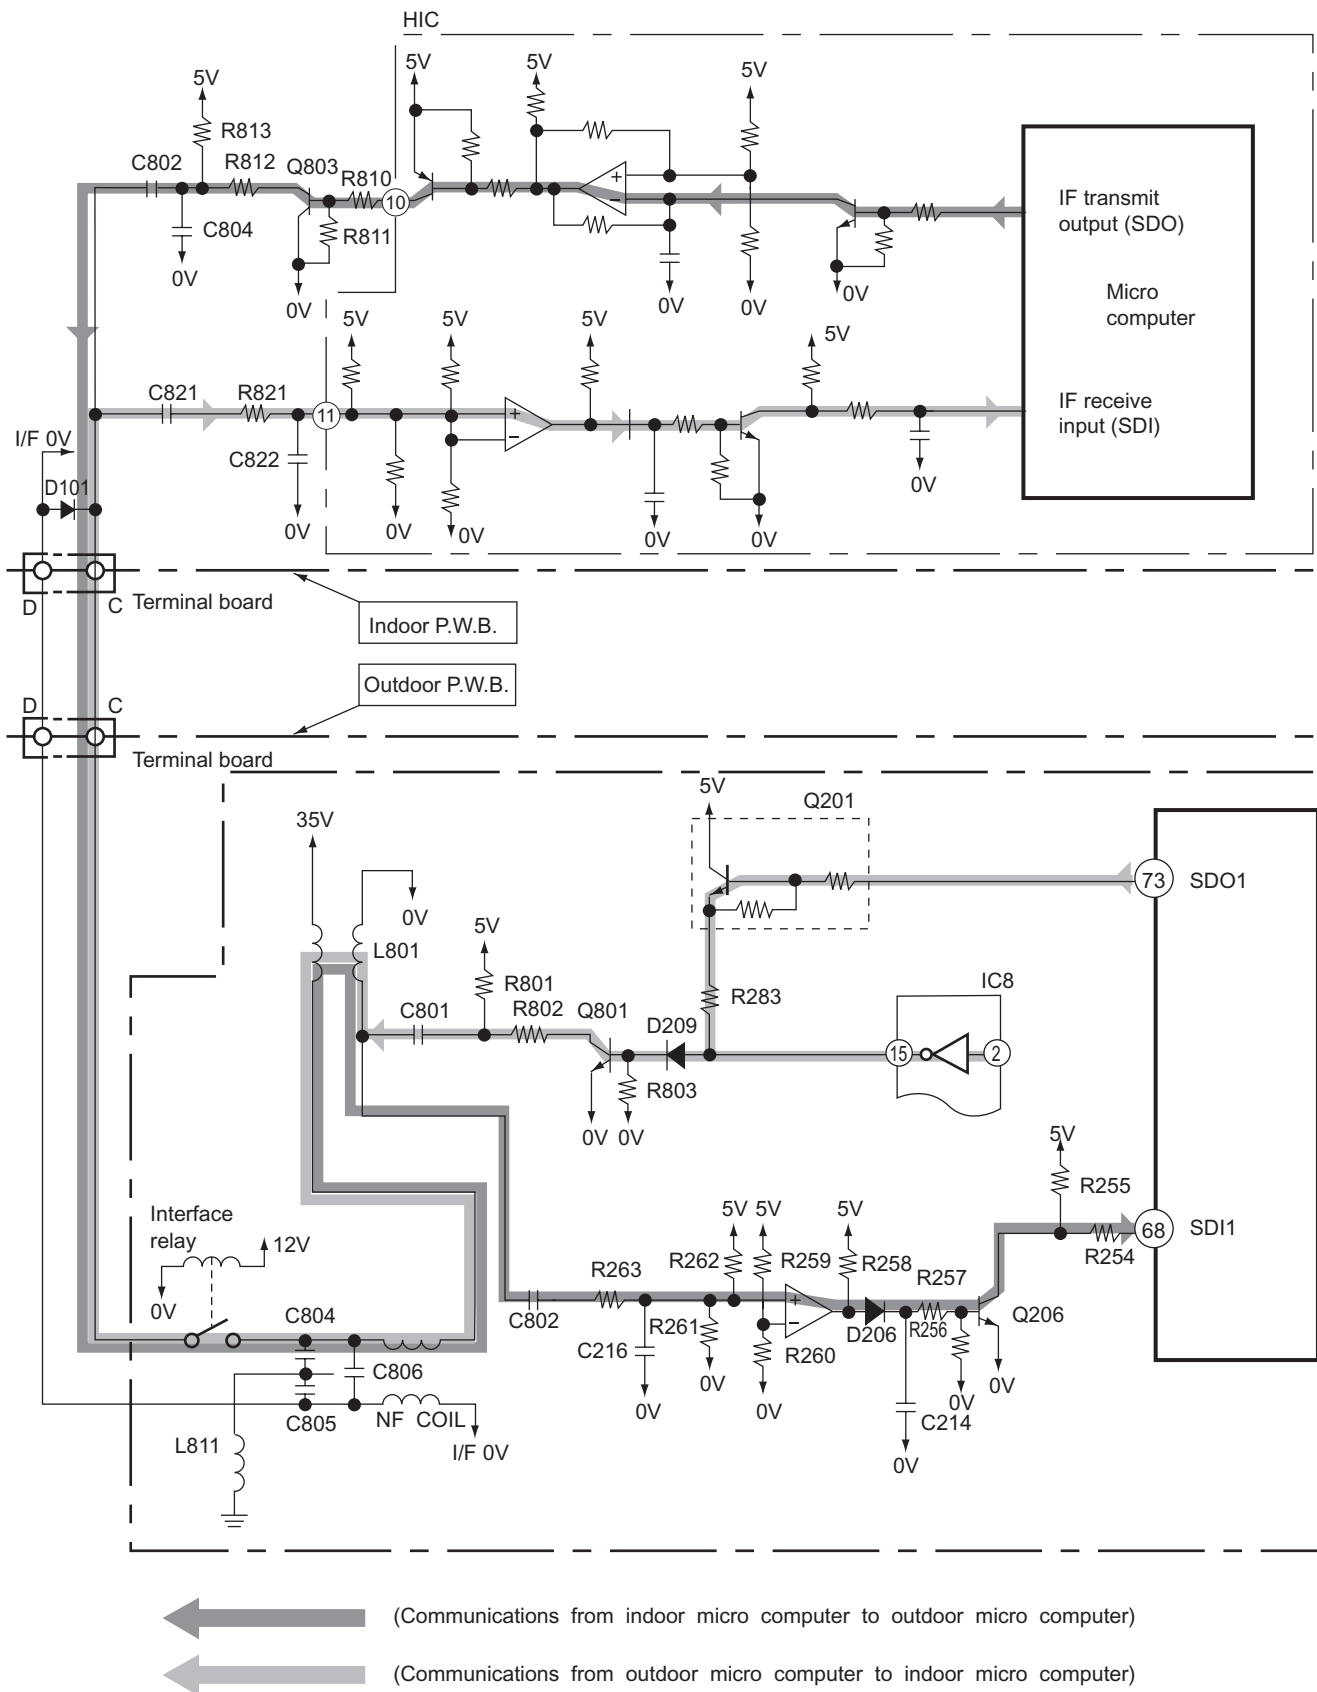

Fig. 2-1 Indoor / Outdoor interface Circuit
- Fig. 2-1 shows the interface circuit used for the indoor and outdoor microcomputers to communicate with each other.